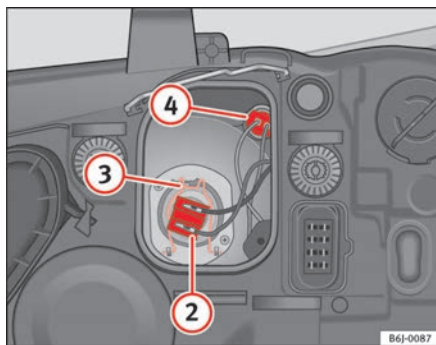

Fig. 136 Side lights
- Remove the connector ⇒ fig. 136 ② from the bulb.
- Unclip the retainer spring ⇒ fig. 136 ③, pressing inwards to the right.